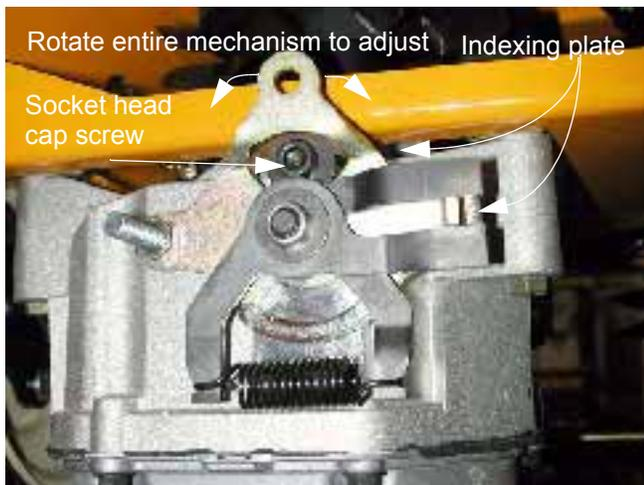

Figure 6.16
- 6.16. To **adjust the return-to-neutral mechanism**, loosen the socket head cap screw that locks the indexing plate on the return-to-neutral mechanism in position using a 1/4" allen wrench. It should be possible to move the indexing plate with light effort. See Figure 6.16.